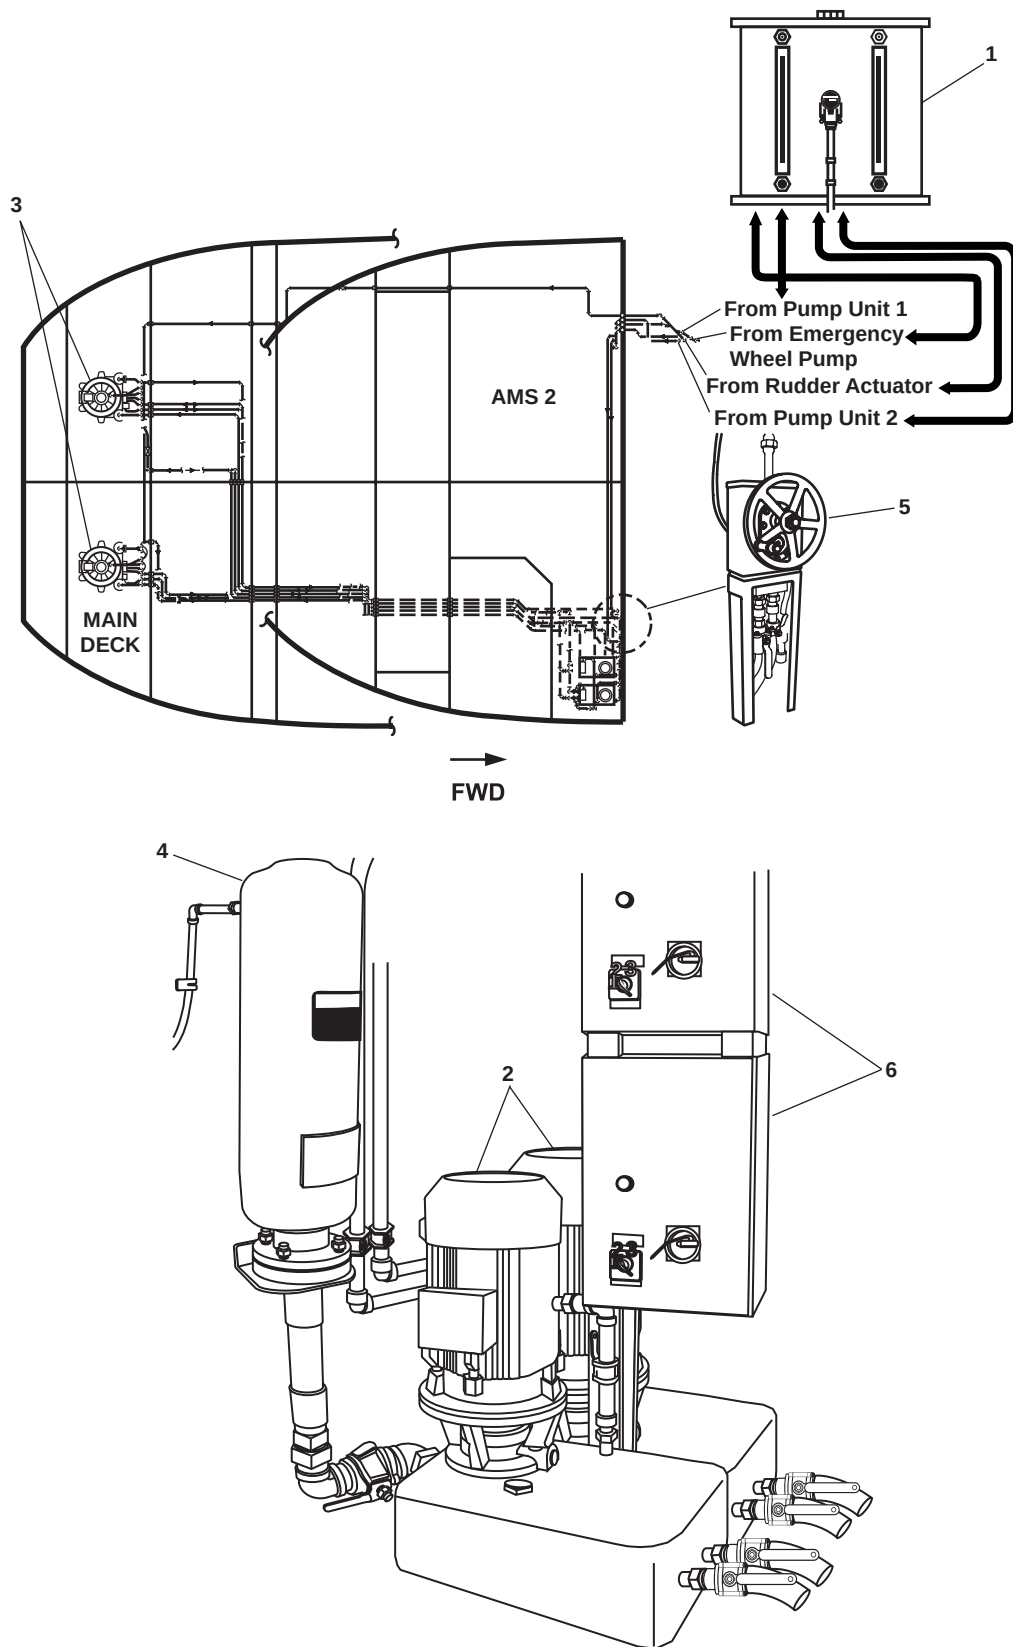

Figure 2. Steering Gear Pump Unit and Hydraulic Layout
The rudder actuators (figure 2, item 3) move the rudders into the requested position (port or starboard direction) as directed by the helm or auxiliary control stations.
The steering system starter panels (figure 2, item 6) provide electrical power and control to the steering gear hydraulic pump units (figure 2, item 2). The steering gear starter panels turn the steering gear hydraulic pump units (figure 2, item 2) ON and OFF (locally or remotely).
The solenoid actuated hydraulic valves (maneuvering valves) (figure 1) receive input from the helm or auxiliary steering stations. They respond to this input by directing hydraulic pressure to the rudder actuators (figure 2, item 3). Direction and volume of the flow are determined by the input from the helm or auxiliary steering station.
The commands to move the rudder actuators (figure 2, item 3) originate from movement of the vessel's helm (wheel) or movement of the helm at the auxiliary control stations. This sends a signal to the solenoid actuated hydraulic valves (figure 1) in the hydraulic power unit. The solenoid actuated hydraulic valves direct the flow of hydraulic fluid from the reservoir (figure 2, item 1) to the steering gear hydraulic pump units (figure 2, item 2) and to the rudder actuators (figure 2, item 3). In the event of the loss of all electrical power, the emergency hand pump (figure 2, item 5) provides the steering gear system with hydraulic pressure to resume steering control.